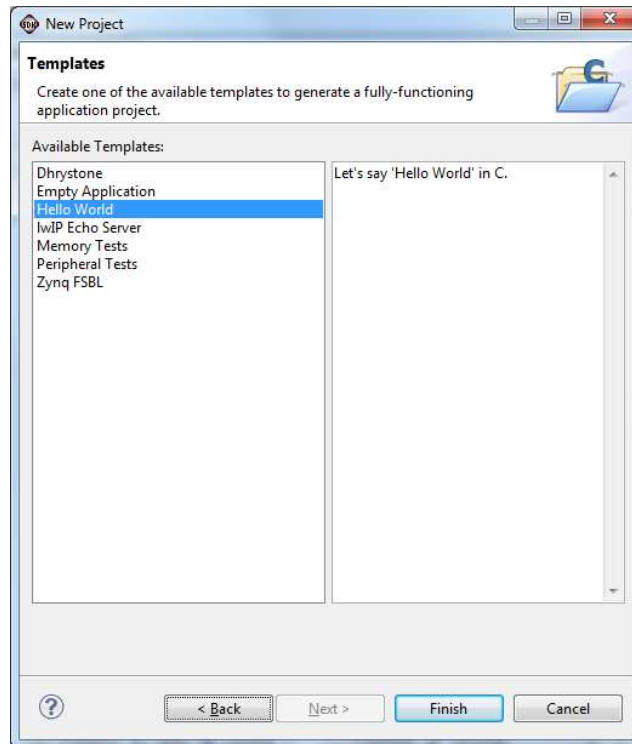

Figure 45: SDK New Project Template
4. From the Available Templates, **select** “Hello World” as seen in (Figure 45) and **click** “Finish”.